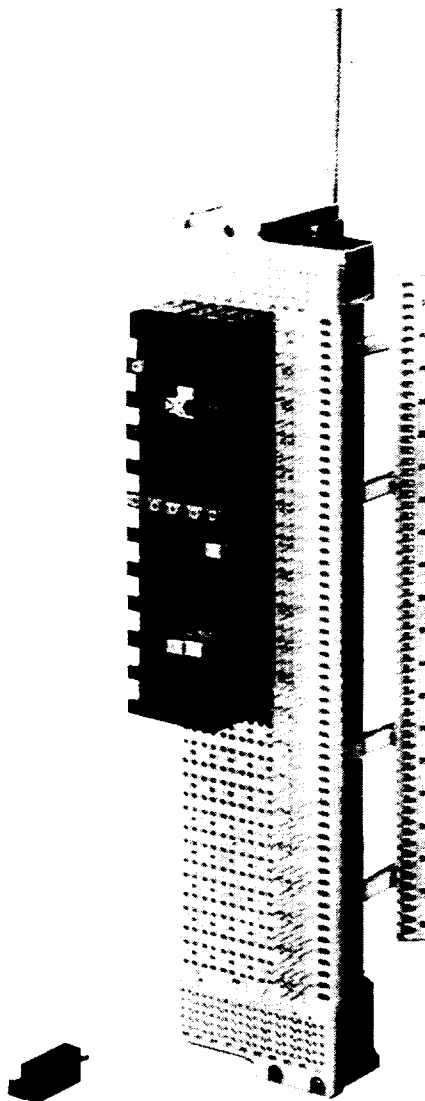

Figure 2—303-Type Connector
2.06 The 303A4-100 and 303B4-100 connectors (Figure 2) have factory-connected color-coded 100-pair stub cable, consisting of 22- or 24-gauge tinned-copper PVC-insulated conductors, mylar tape core wrapper, and a corrugated aluminum shield under an olive-gray colored PVC jacket. The reversible stub cable can be placed in either the up or down position to facilitate installation (Table A).
2.10 When the 303B3-50 connector is bolted to the frame, electrical ground continuity is provided between the shield of the stub cable and the frame by the aluminum covered moisture plug and its associated cable clamp. A ground path is established through the mounting screws that secure the connector to the frame. The reversible stub arrangement on the other codes has its own bonding wire which is attached to the connector mounting bracket (Figure 2).